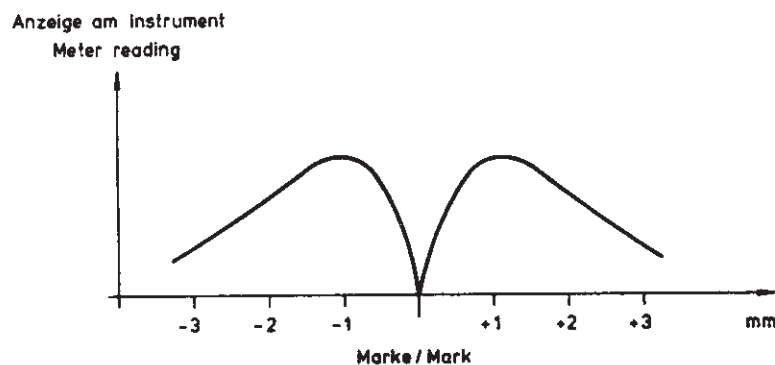

Fig. 5-5 Rated meter reading for checking of meter amplifier
**Checking the null detector amplifier:** Check the DC levels according to the circuit diagram 41314 S Bl.2. Observe the reading of meter J1 (zero beat indicator). Select range I and change the frequency tuning from the calibration mark to the left or right. For meter reading, see Fig. 5-5.